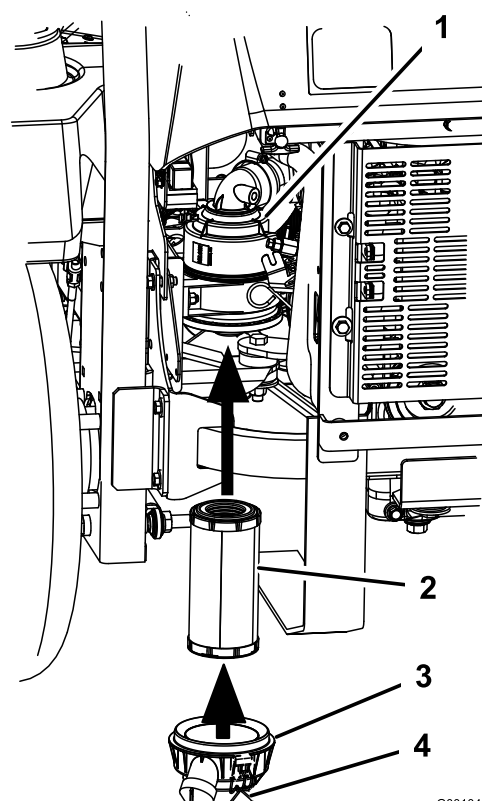

Figure 36
2. Carefully slide the filter into the filter body (Figure 36). Ensure that it is fully seated by pushing on the outer rim of the filter while installing it.
3. Install the air cleaner cover and secure the latches (Figure 36).